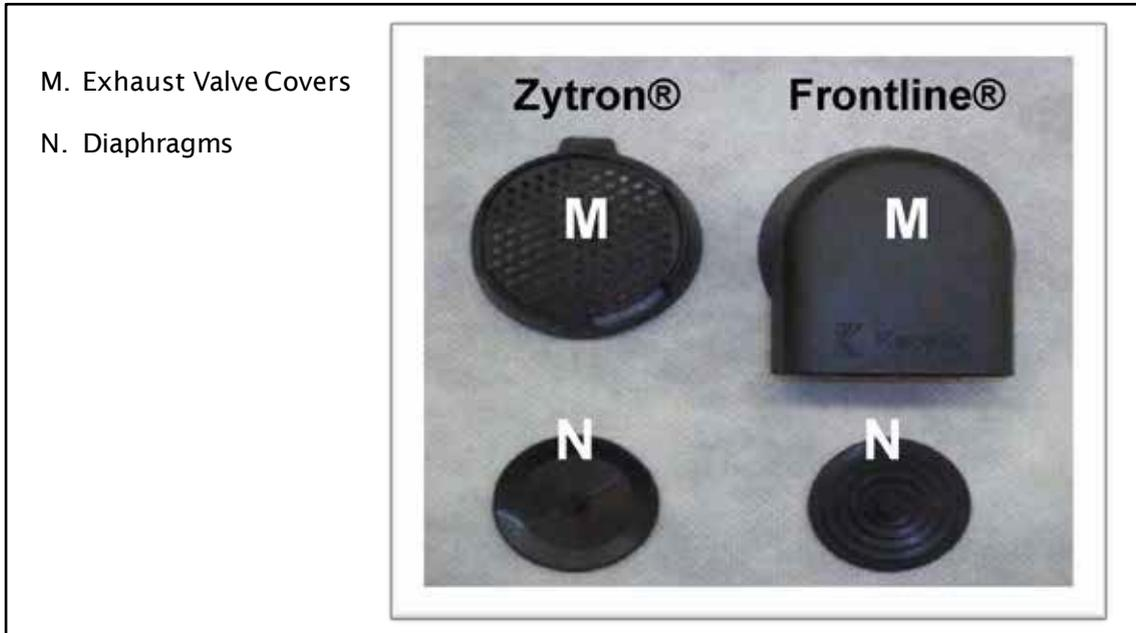

Figure 8: Exhaust Valve Covers and Diaphragms
7. Locate the two exhaust valves on the back of the garment. Remove the exhaust valve covers (M) and the diaphragms (N) from inside the exhaust valves. (Figure 8) Visually inspect the valve diaphragms (N) for signs of deterioration to ensure pliability and proper performance.
8. Place each valve cover (M) and diaphragm (N) in a safe place until testing is completed.
9. Install the test kit valve adapters (A) into each exhaust valve, while reaching inside garment to support the exhaust valve from the inside. Firmly insert the valve adapters (A) into the exhaust valves sitting level with respect to the exhaust valve with a slight even twist to ensure a tight seal. Visually inspect the connection to confirm the valve adapters (A) are securely in place. Close the garment zipper ensuring the slider is firmly engaged against the zipper end stop. For instructions on proper zipper closing techniques refer to <https://www.kappler.com/files> "Technique for Closing a Gas Tight Zipper".
18. Replace the diaphragms and the valve covers, (Part M and N) in Figure 8. For the Zytron® diaphragm pull on the stem to secure the